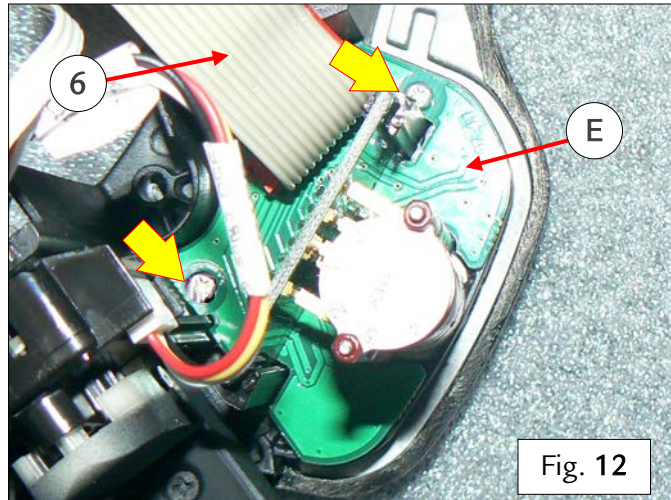

Fig. 12
- Undo the indicated screws fastening the Manettino rotary selector (E) – Fig. 12.
- Disconnect the ribbon cable (6), releasing the respective connector on the Manettino rotary selector – Fig. 12.